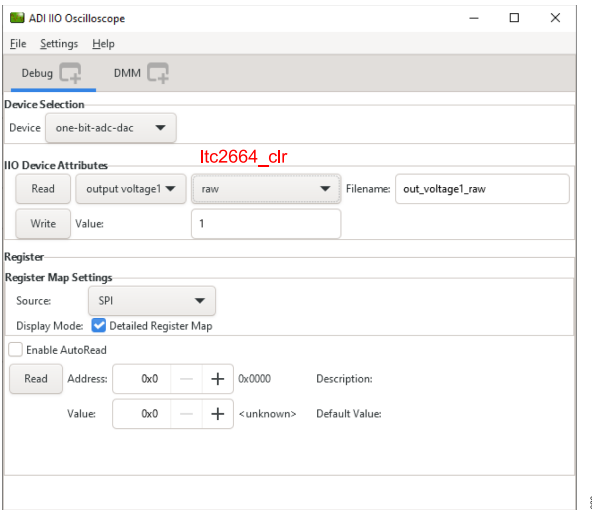

Figure 20. Register Settings for the AD9213 High-Speed Path ltc2664_clr
- **ltc2664_clr** set to 1, as shown in Figure 20.